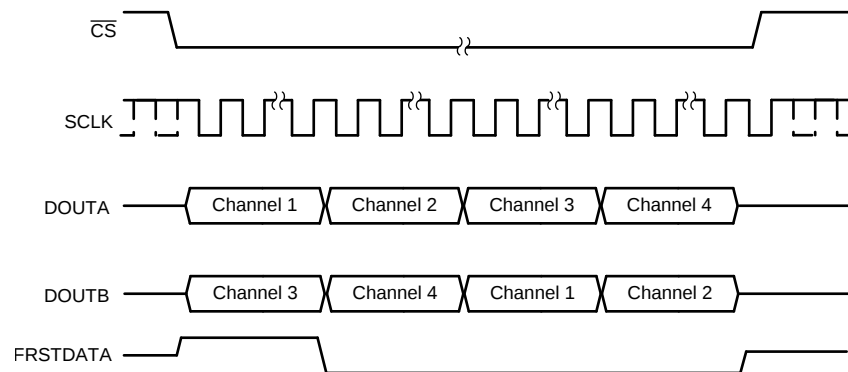

Figure 69. Data Read Back in the Serial Interface Using Either DOUTA or DOUTB Timing Diagram
- The conversion data can be read out of the device using only one of the two serial output lines, DOUTA or DOUTB. In this case, using DOUTA for output data read back is recommended because channel 1 data appear first on DOUTA followed by the data for other channels in ascending order. To read the data for all channels, provide a total of $16 \times 4 = 64$ SCLK cycles for the ADS8584S. This entire data frame can be created within a single $\overline{CS}$ pulse or each group of 16 SCLK cycles can be individually framed by the $\overline{CS}$ signal. The primary disadvantage of using just one data line for reading conversion data is that the throughput is reduced if a data read operation is performed after conversion. Figure 69 shows this operation.
- Alternatively, only DOUTB can be used for reading the conversion data from all channels. In this case, everything else remains the same and the output bit stream contains data for all channels in the following order: channels 3, 4, 1, and 2 for the ADS8584S. Figure 69 shows this operation.